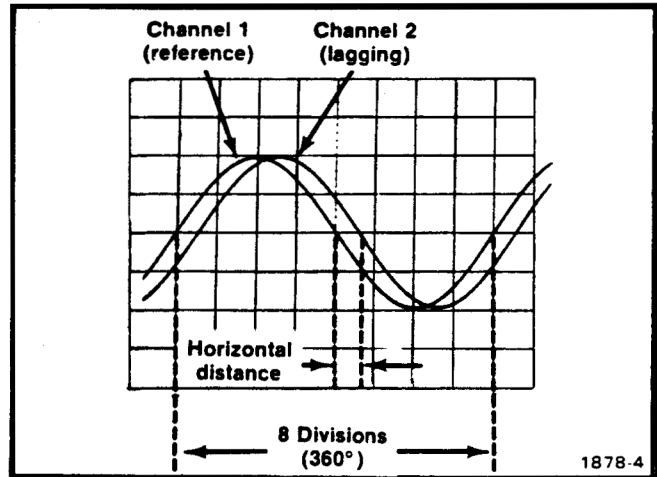
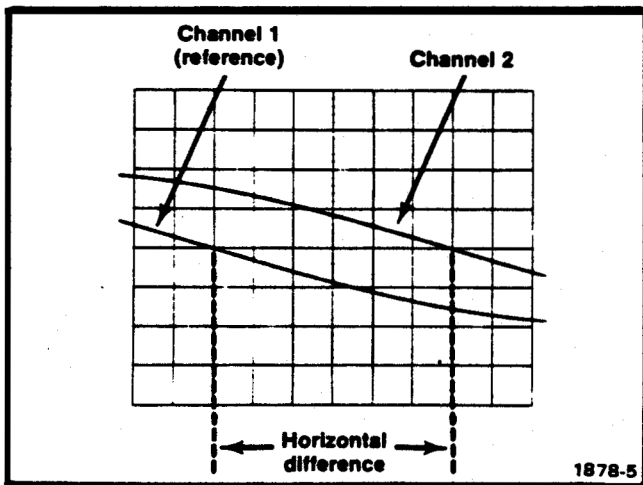

Fig. 2-8. Measuring phase difference.
Fig. 2-9. High-resolution phase difference measurement with increased sweep rate.
9. Turn the variable SECONDS/DIV control until one cycle of the reference signal (channel 1) occupies exactly eight divisions between the second and tenth vertical lines of the graticule (see Fig. 2-8). Each division of the graticule represents 45° of the cycle ($360^\circ \div 8 \text{ divisions} = 45^\circ/\text{division}$). The sweep rate can be stated in terms of degrees as 45°/division.
EXAMPLE: Assume a horizontal difference of 0.6 division with a sweep rate of 45°/division as shown in Fig. 2-8. Use the formula:
EXAMPLE: If the sweep rate were increased 10 times with the magnifier, the magnifier sweep rate should be $45^\circ/\text{division} \div 10 = 4.5^\circ/\text{division}$. Fig. 2-9 shows the same signals as used in Fig. 2-8, but with the X10 SWP MAG control pulled out. With a horizontal difference of six divisions, the phase difference is: